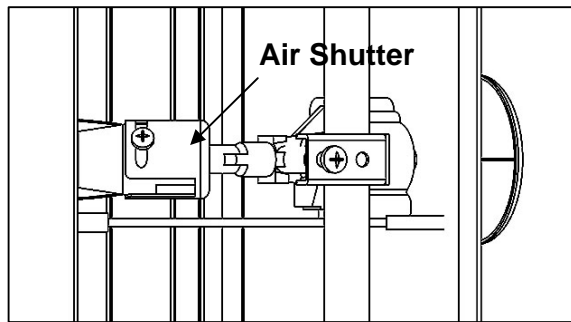

Fig. 51 Air Shutter
- a. Loosen the air shutter. The shutters are located on the end of the gas burners underneath the control box. See Fig. 51